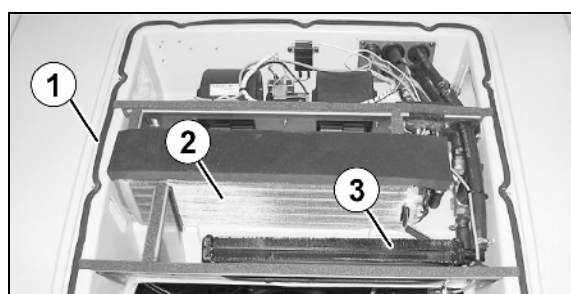

Fig. 171
2. Blow out the evaporator (Fig. 171/2) and warm water radiator (Fig. 171/3) with compressed air (maximum 5 bar).
3. Renew damaged seals (Fig. 171/1) under the cover.